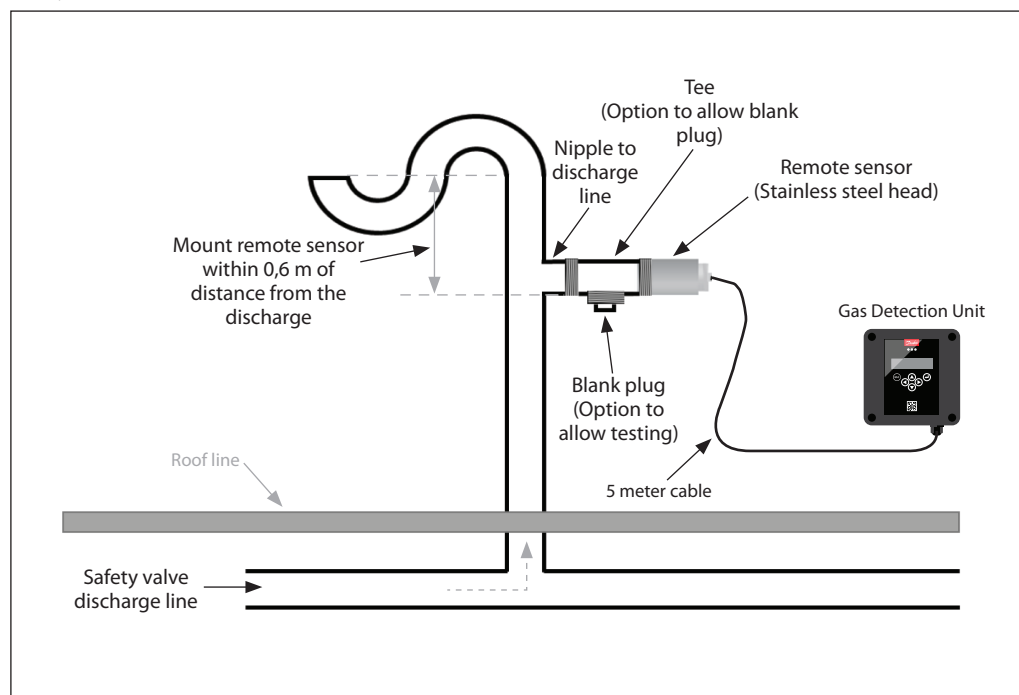

Figure 1.
- The sensor should be mounted so it does not restrict the flow in the pipe, e.g by mounting it in a weld-on pipe, as shown in figure 1.